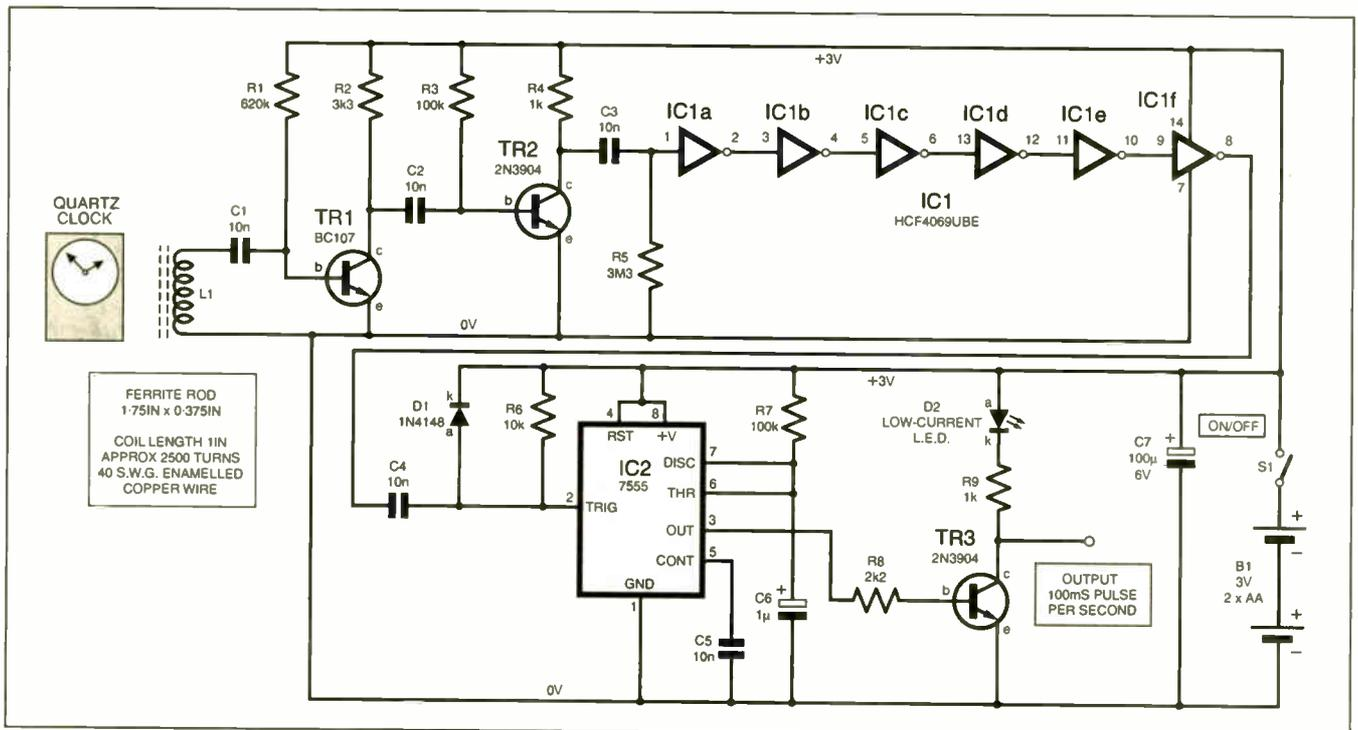

Fig.1. Circuit diagram for the One-Second Crystal Clock. Some clocks without seconds-hands do not impulse every second.
**T**HE One Second Crystal Clock circuit diagram shown in Fig.1 was devised through necessity. A simulator was required for a Bio-Botanical experiment at home. The requirements were for a cheap and quick construction, portability, low voltage/current, and a means of recording expired time periods.